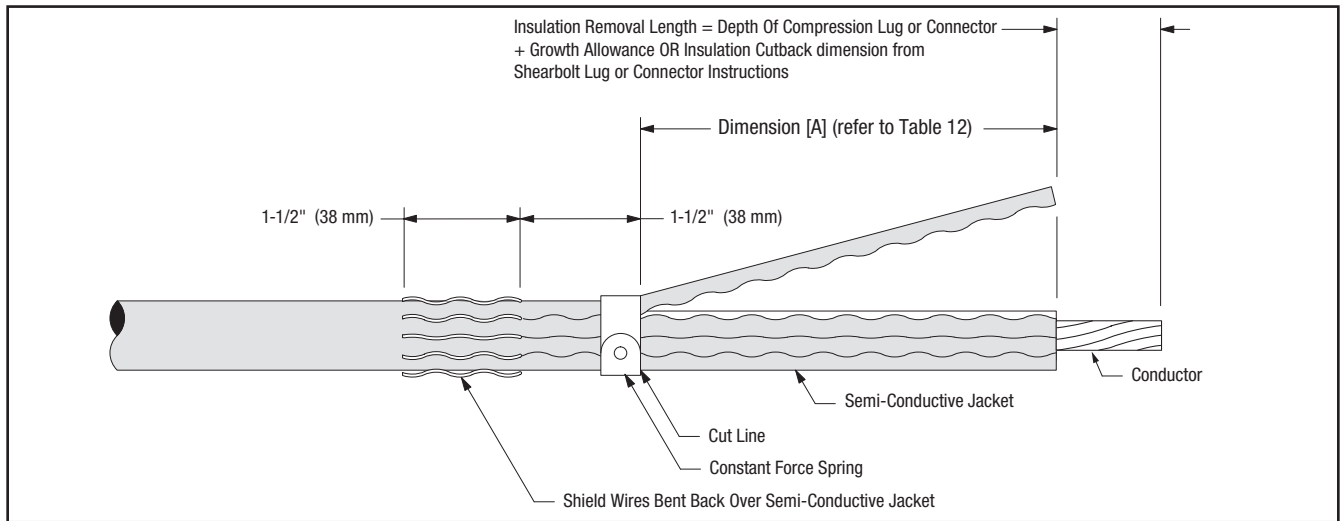

Figure 18
12.7 Remove semi-conductive jacket to dimension shown in Figure 18.
**NOTE: To ease jacket removal, install constant force spring as shown in Figure 18 and ring-cut 80% through jacket. Remove jacket sections by pulling against constant force spring. DO NOT BELL SEMI-CON JACKET. Remove constant force spring.**